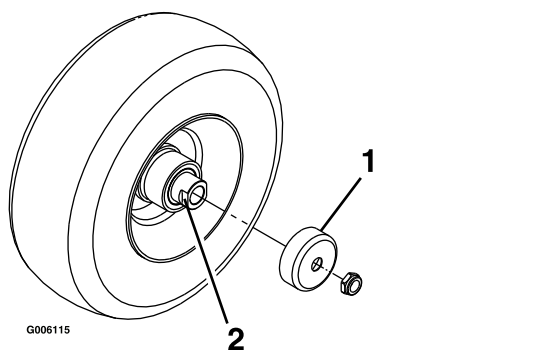

Figure 36
4. Remove the seal guards from the wheel hub (Figure 36).